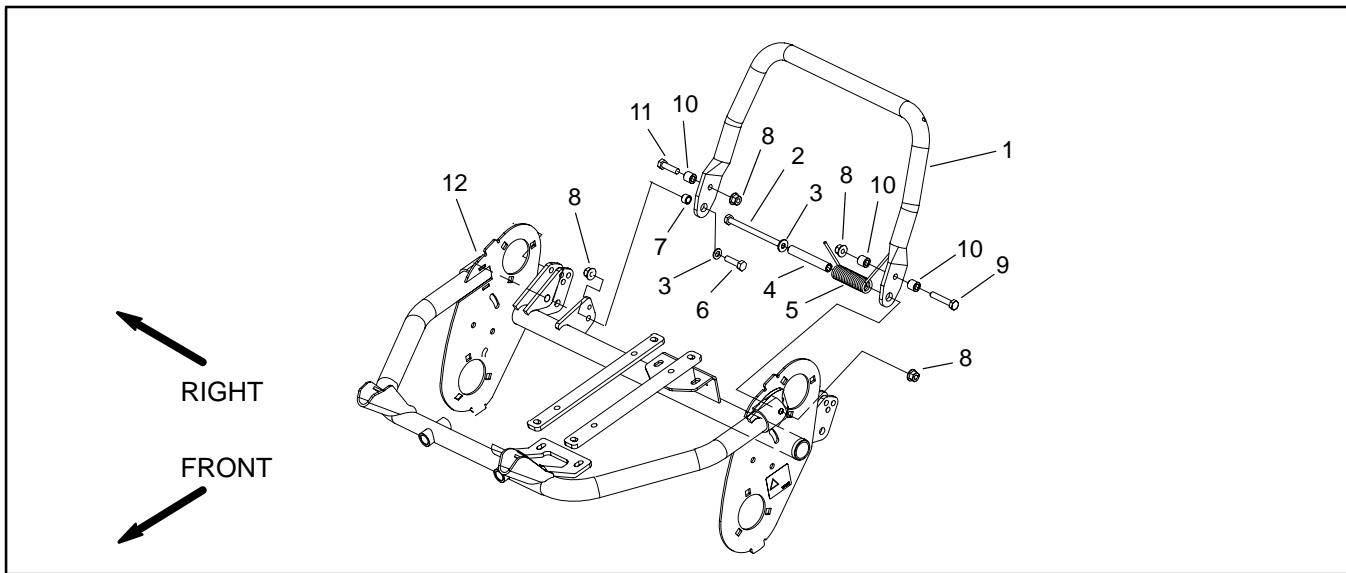

Figure 16
Removal (Fig. 16)
Installation (Fig. 16)
2. Position kickstand inside the machine frame. Insert cap screws through the washers, kickstand, spacers and frame (Fig. 16).